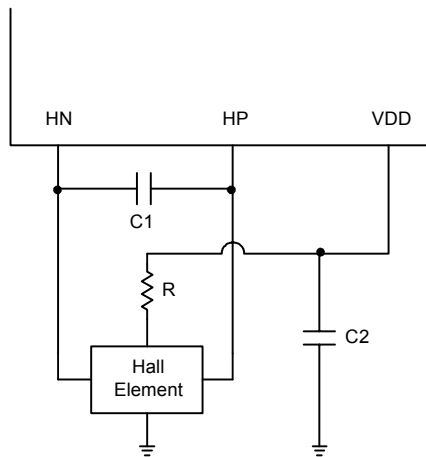

Fig6 Hall Element Application Circuit
- The hall amp of this IC has  $\pm 10mV$  (Typ.) input hysteresis to against environmental noise. If the  $V_{DD}$  noise still influences the hall signal by board wiring pattern, please connect capacitor C2 in fig6. If there is long board wiring pattern from hall element to hall signal input terminal, please connect C1 like fig6.